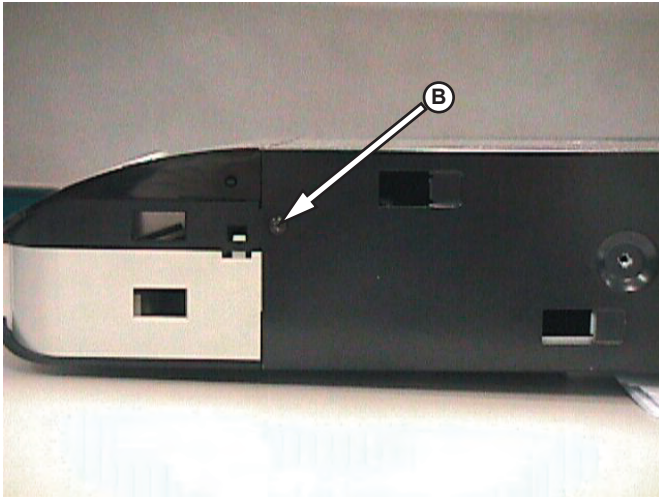

Figure 4-2
- 2) Loosen 1 screw each on the left & right side to remove the Cover Top as shown in Figure 4-2.